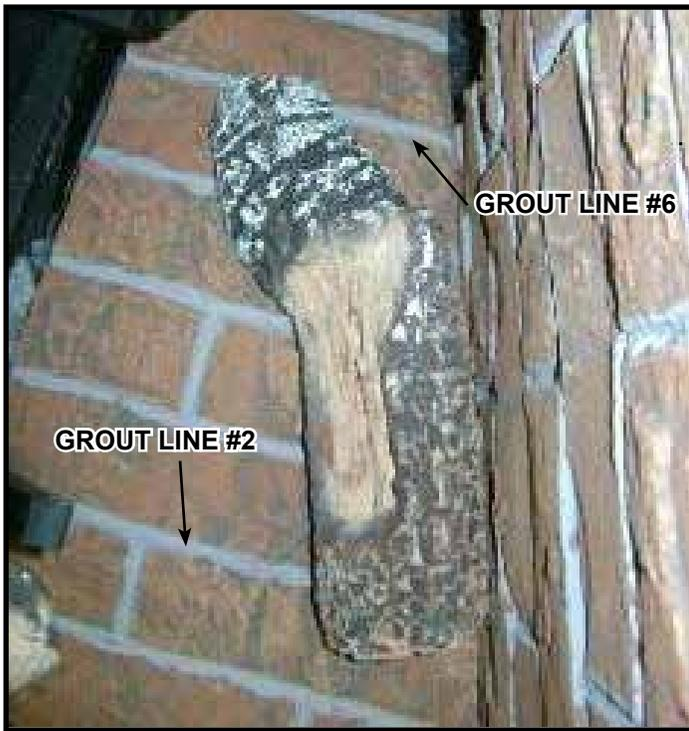

Figure 12.
**Log #7 (SRV2281-707):** Place Log #7 into appliance as shown in Figure 12. The unburned end of the log should rest on the second grout line from the front edge. The burned end of the log should rest on the sixth grout line. The right side of the log should contact the refractory on the right side of the firebox.